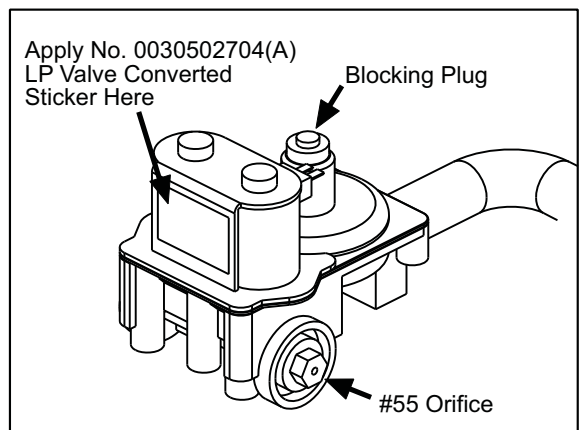

Figure 5
10. Use a 3/8" box wrench to remove the existing main burner orifice. Install the new main burner orifice No. 55. (Figure 5). Torque the new orifice to 30 in-lbs (3.4 N-m).
11. Remove the vent screw from the top of the gas valve. Install the new regulator blocking plug finger tight, then tighten it no more than 1/8 turn to seal it. (Figure 5)
12. Apply No. 0030502704 LP Gas Valve Converted Sticker over the existing valve label. (Figure 5) In Canada, apply No. 0030502704A (French).